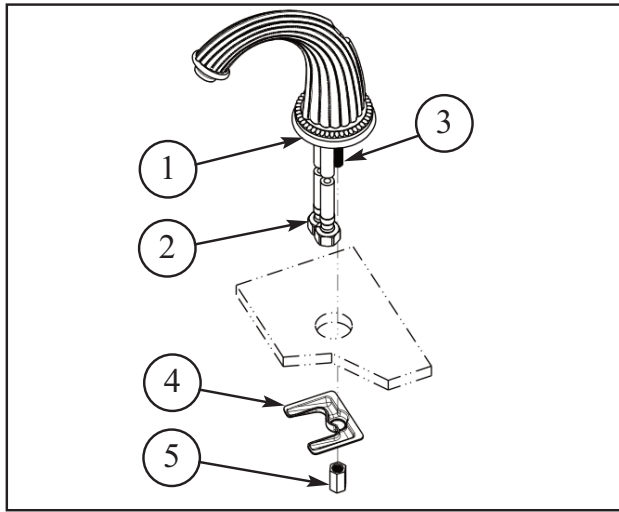

Figure 1
1. Insert HOSES (2), one at a time, and MOUNTING STUD (3) through sink hole, (apply putty or silicone to underside of SPOUT (1). Align SPOUT (1) and secure into place with mounting BRACKET (4) and NUT (5). See Figure 1.